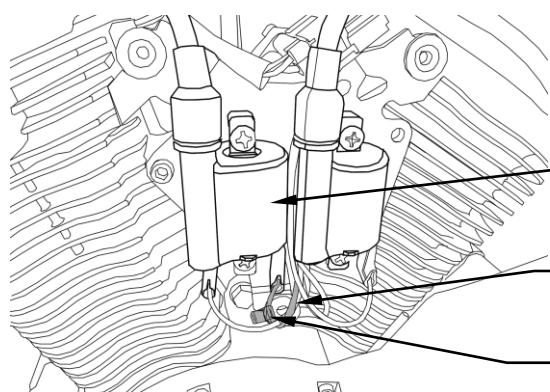

FIGURE 1
5. **For VN900 and VN2000:** Remove the chrome cover from the left side of the motor below the gas tank to expose the coils. Route the green tachometer wire with existing wire looms under the fuel tank area to the front coil. Place a quick slide on the black coil wire and connect the tachometer green wire to that slide. (Refer to Figure 1 for VN900 and Figure 2 for VN2000). Zip-tie the tachometer wire to the wire harness. Reinstall the cover.